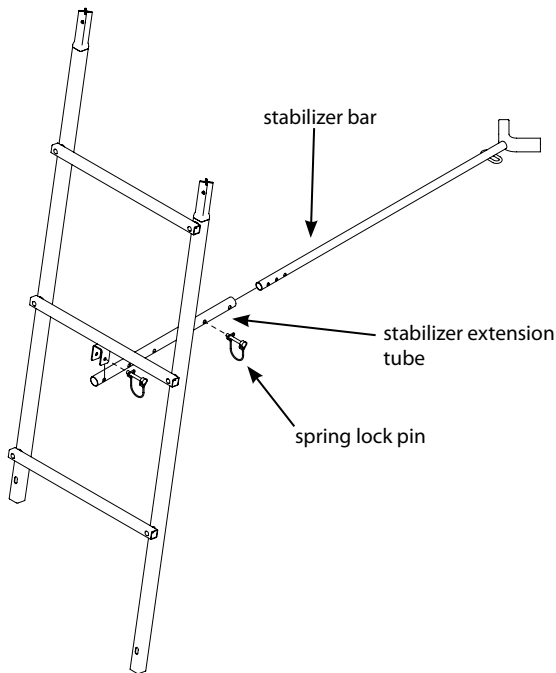

Figure 7
10. a. Attach the stabilizer bar extension tube (410075) to the second ladder section mounting bracket using (1) provided spring lock pin. **SEE FIGURE 7.**
b. Slide the stabilizer bar (410073) into the extension tube and attach the two pieces together using (1) provided spring lock pin. Spring lock pin must go through both the extension tube and stabilizer bar at appropriate hole to achieve desired distance from tree. Adjustment in length may be needed when ladder is uprighted later in instructions. **SEE FIGURE 7.**